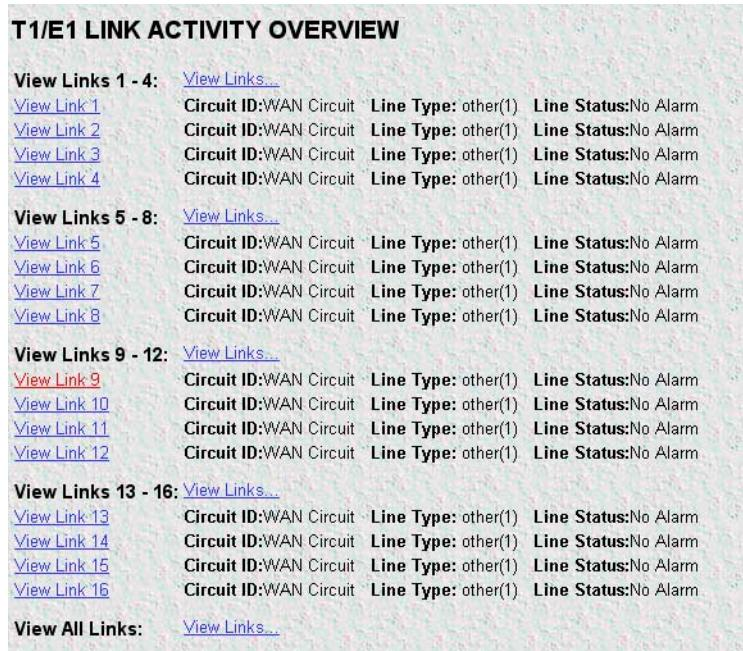

Figure 119. T1/E1 Link Activity Overview window
- Click on the *T1/E1 Link* hyperlink under the configuration menu to display the *T1/E1 Link Activity Overview* window (see figure 119). Select which T1/E1 port will carry the PPP link, then click on the *View Link* hyperlink of the selected port (in this example, *View Link 9* was clicked).